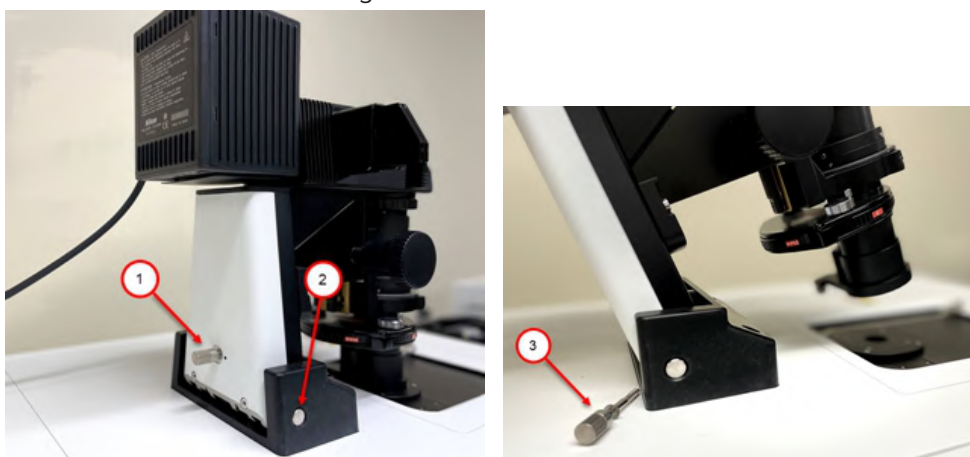

Figure 7-10: Hinge Release Knob and Hinge
11. If your instrument includes the Transmitted Light option, move the Transmitted Light tower back into position and replace the hinge release knob. See Figure 7-10.